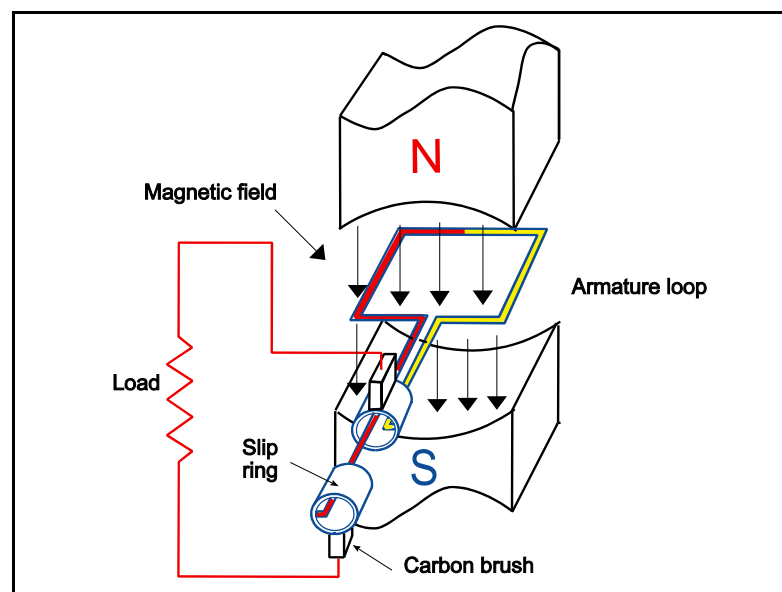

Figure 11.1 Simple AC Generator
If the electrons flowing in a circuit move backwards and forwards about a mean position then the current produced is known as alternating current (AC). The simple AC generator shown in Figure 11.1 shows that a loop of wire (armature) rotated in a magnetic field experiences a continuously changing flux through it so that a voltage will be induced as long as rotation continues.